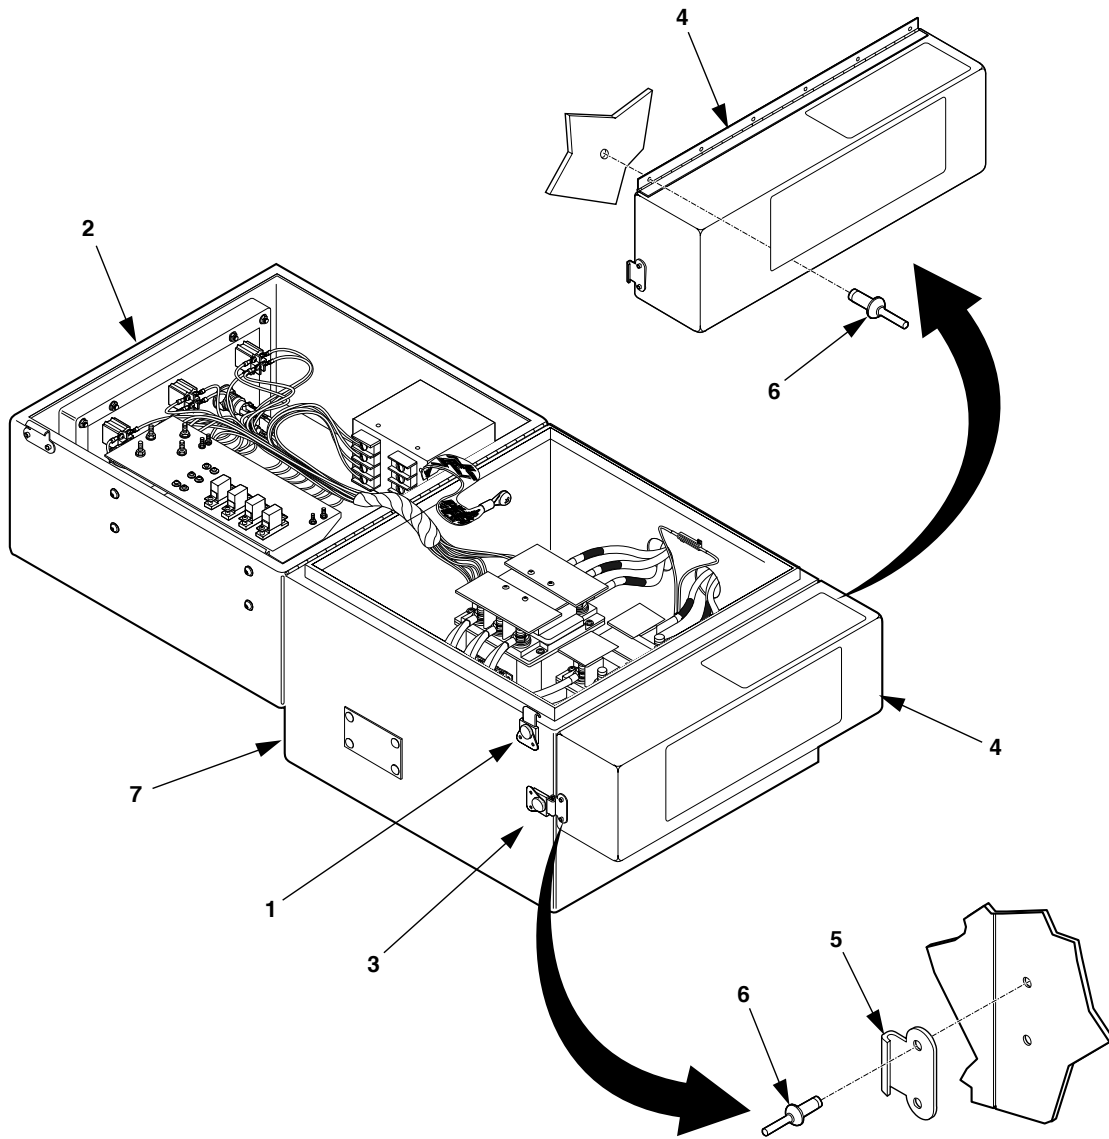

Figure 4-18.1. Load Terminal Cover (NEW).
1. Release clamping catches (1, figure 4-18.1) and open switch box cover (2).
2. Release clamping catches (3) and open load terminal cover (4).
3. Remove six rivets (6) and remove load terminal cover (4) from switch box (7).
4. Remove six rivets (6) from butt hinge on load terminal cover (4).
5. Remove four rivets (11) and two clamping catch strikes (12). Retain strikes for installation on new cover.